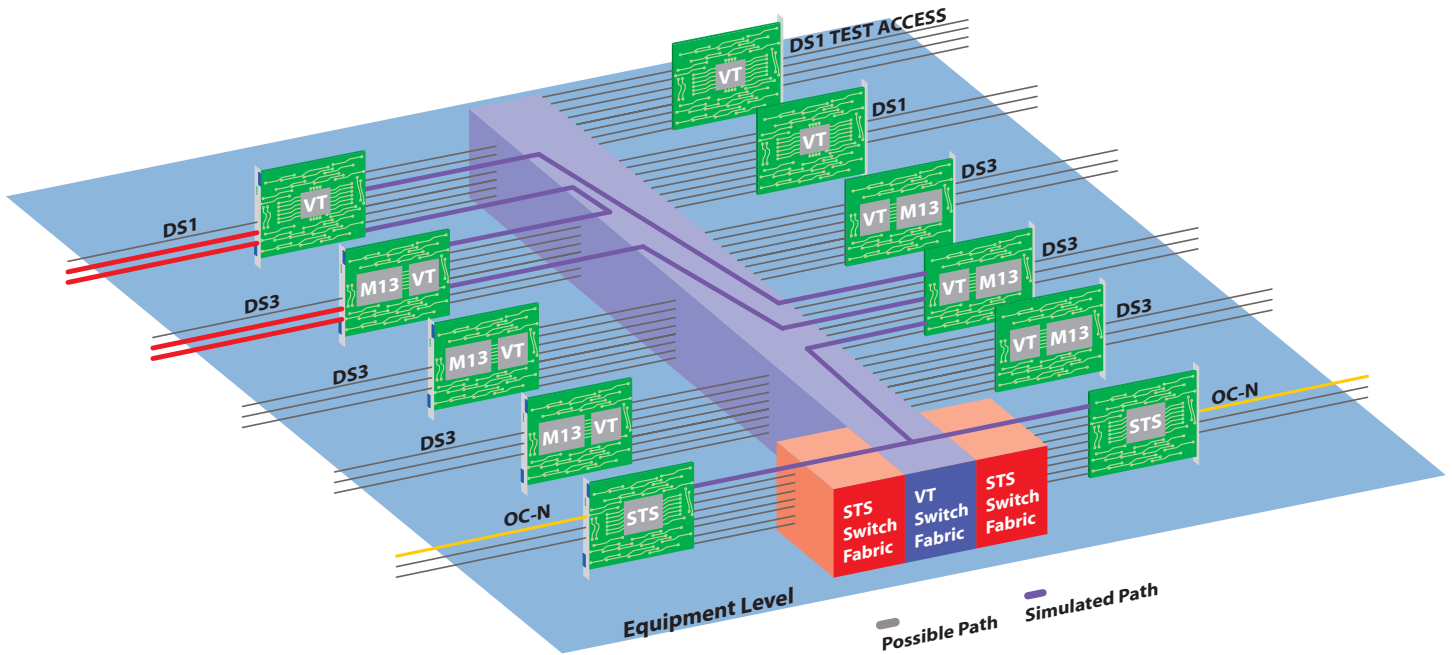

Figure 2: Circuit Flow Examples
Figure 2 shows a number of potential circuit flows inside the FLASHWAVE 4300 platform to illustrate its VT1.5 switching and M13 multiplexing capabilities. An M13-mapped DS3 can enter the Network Element (NE) either electrically through a BNC connector on the backplane or optically through any OC-n fiber facility. At the DS3 Transmux interface, the M13-mapped DS3 is broken down into constituent DS1s, providing full visibility to every DS1 inside any DS3 in the shelf. These DS1s are then repackaged into 28 individual VT1.5s.